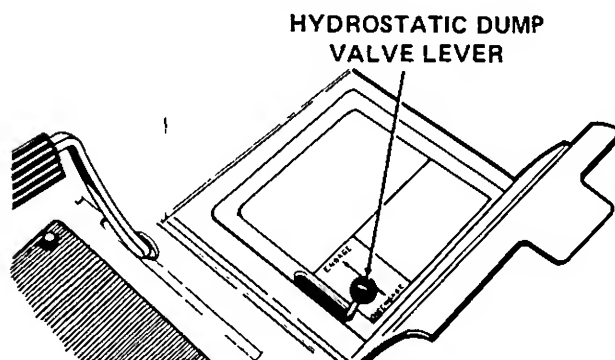

Figure 11.
2. To disengage the dump valve, release the lever. (See Figure 11.)